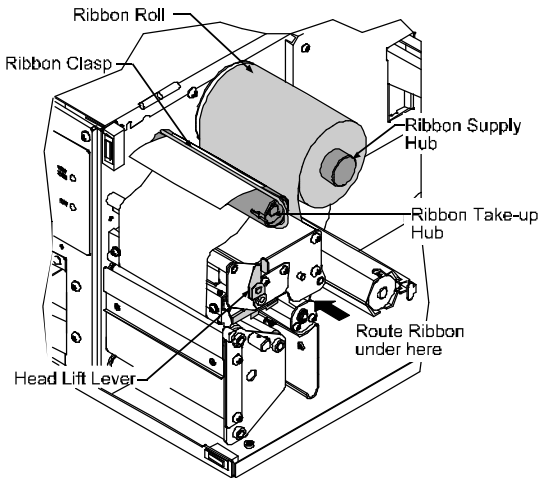

Figure 1-11 Ribbon Loading
Load ribbon as shown below in Figure 1-11. The ribbon can be wound directly onto the hub and held with a clasp, or a used ribbon core can be placed on the hub.
2. Slide the Ribbon onto the Ribbon Supply Hub. Route the ribbon, (see Figure 1-11), and attach the ribbon to the Ribbon Take-up Hub.